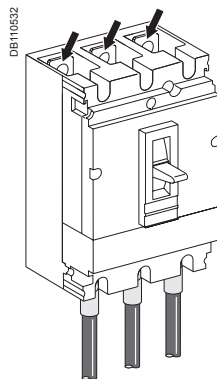

Fig. 10: power connection to circuit breakers.
- to circuit-breakers (Fig. 10)